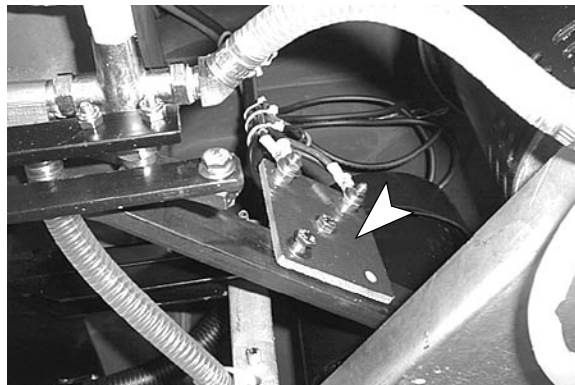

Fig. 7
6. Located near the scrub head, remove the wire harness connection board from the lift pedal arm, two 7/16" wrenches required (Figure 7).
5. Reattach the wire harness connection board to the lift pedal arm, two 7/16" wrenches required (Figure 7).